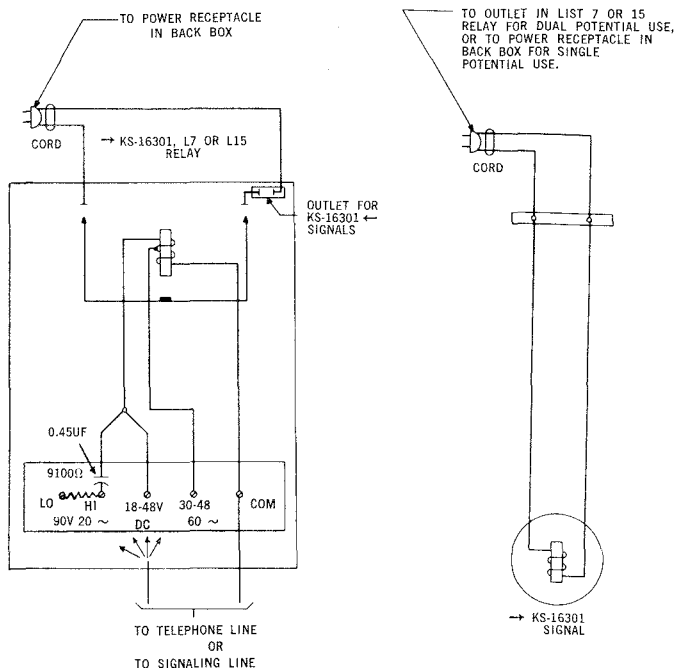

Fig. 1 — KS-16301 Signal Connections
2.01 Connections for relays and signals are shown in Fig. 1. Also shown are the voltage values and terminal locations on the List 7 or 15 Relay.